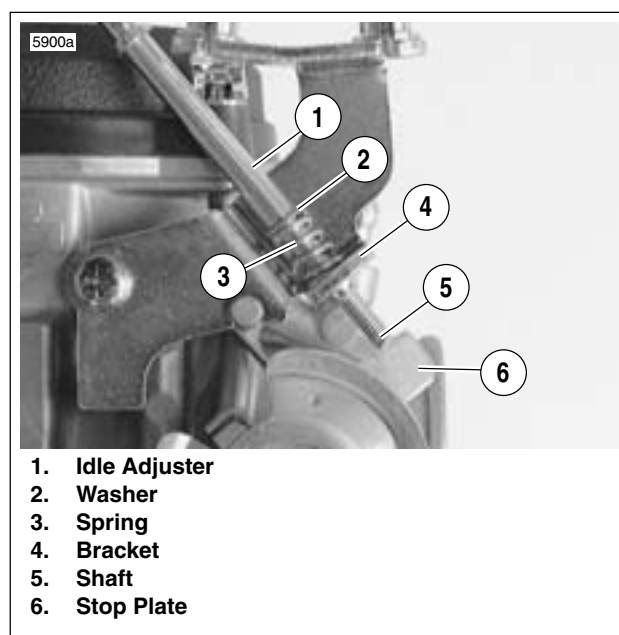

Figure 4-19. Removal/Installation
3. See Figure 4-19. Unthread adjuster assembly from bracket (4). Remove spring (3) and washer (2).
1. See Figure 4-19. Thread remote adjuster (1), washer (2) and spring (3) into bracket (4). Shaft (5) must touch stop plate (6).